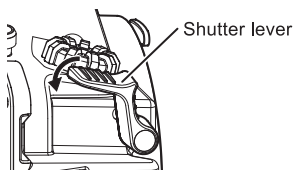
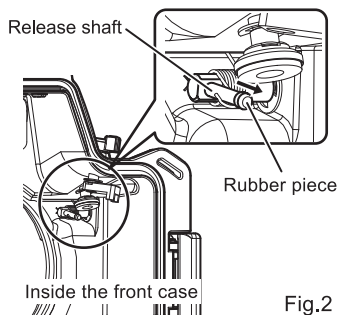

Fig.1
Fig.2
- 1 While pulling the shutter lever toward you (with the lever facing you) or pressing down on the shutter lever (Fig.1), pull the rubber piece at the tip of the release shaft inside the front case to remove (Fig.2).
- 2 While pressing down on the shutter lever (Fig. 1), slide the release rubber onto the tip of the release shaft and fix into place (Fig.3).